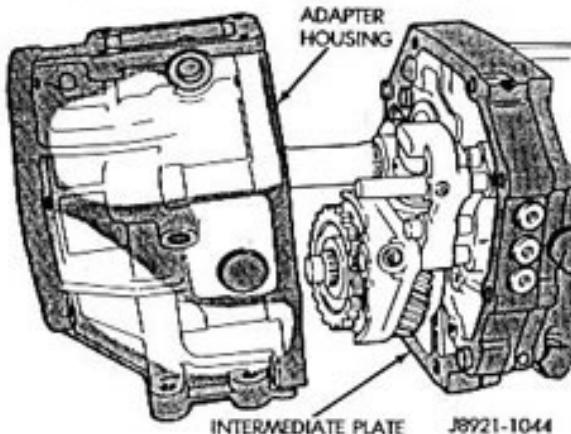

Fig. 14 Adapter Housing Removal
(17) Remove the adapter housing after loosening it (Fig. 14).